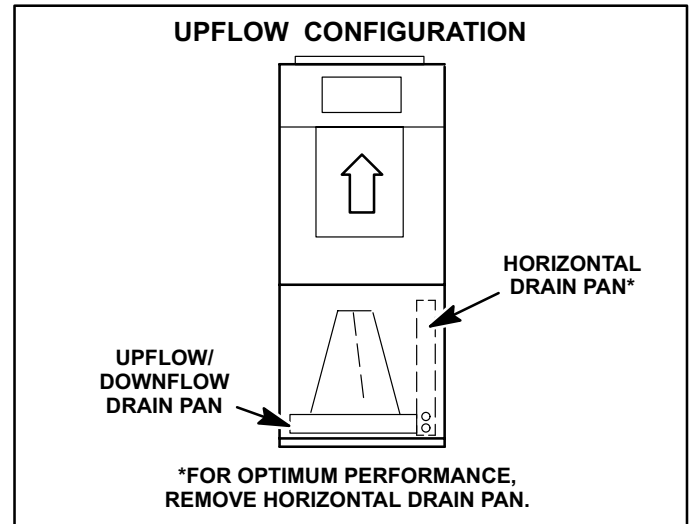

FIGURE 20
- 3- After removing horizontal drain pan, place unit in desired location. Set unit so that it is level. Connect return and supply air plenums as required using sheet metal screws. See figure 20.